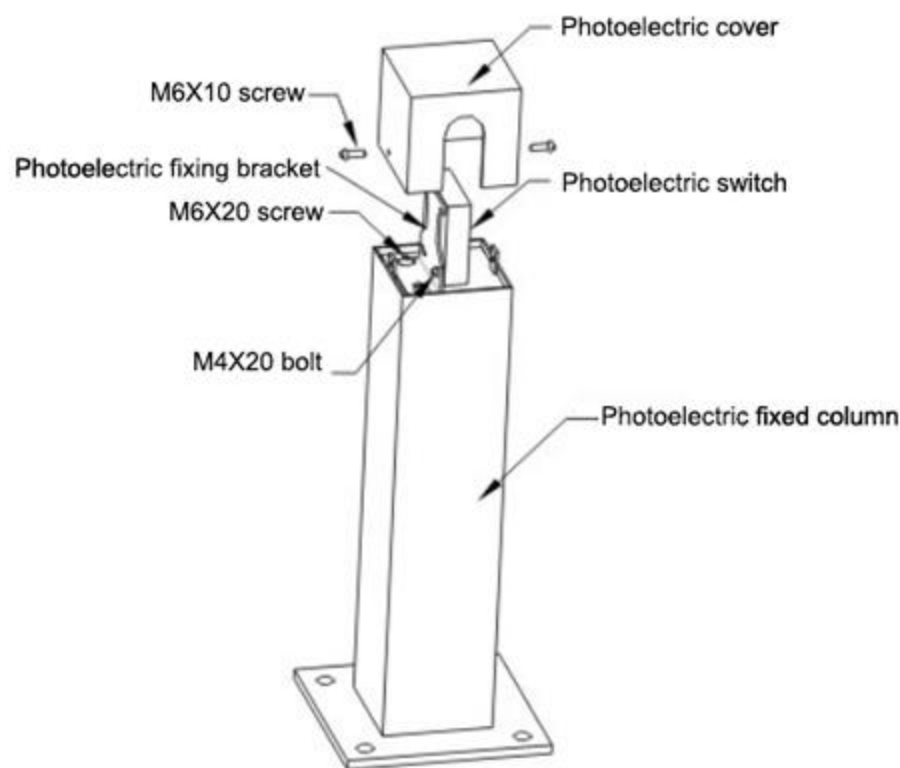

Figure 14-2
14.2 Use M6X10 screws to install the infrared transmitter and receiver on the photoelectric switch fixing column. Note that the infrared transmitter should be located on the side where the controller is installed; after the installation is completed, the lenses of the infrared transmitter and receiver should be on the same line; (Figure 14-2)